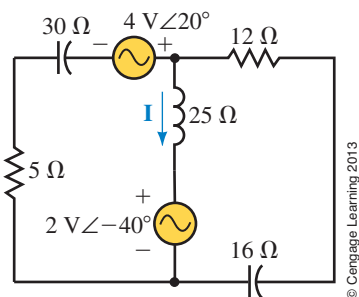

FIGURE 19-58
- Refer to the circuit of Figure 19-58.